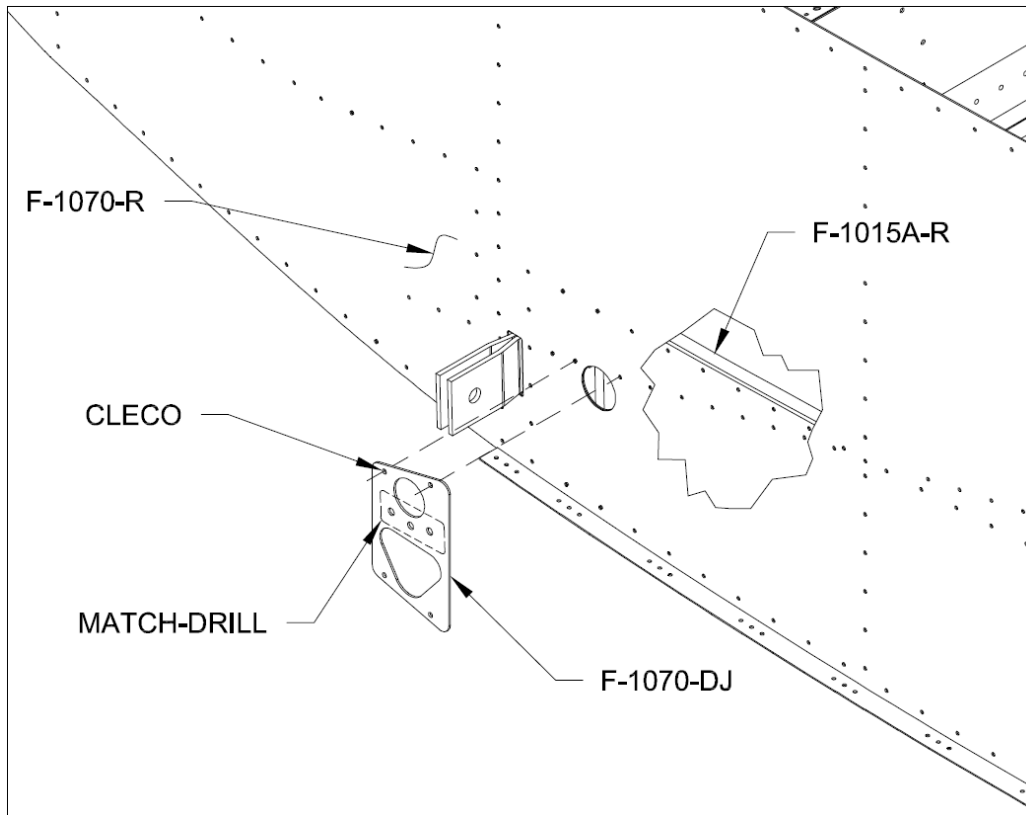

FIGURE 2: MATCH-DRILLING THE SIDE SKIN
Step 6: Cleco the F-1070-DJ Drill Jig to the F-1070-R Mid Side Skin and F-1015A-R Outboard Seat Rib with the circular holes aligned as shown in Figure 2.
Step 7: Match-Drill #12 the three .189 [4.8mm] holes in the F-1070-DJ into the F-1070-R and F-1015A-R as shown in Figure 2.